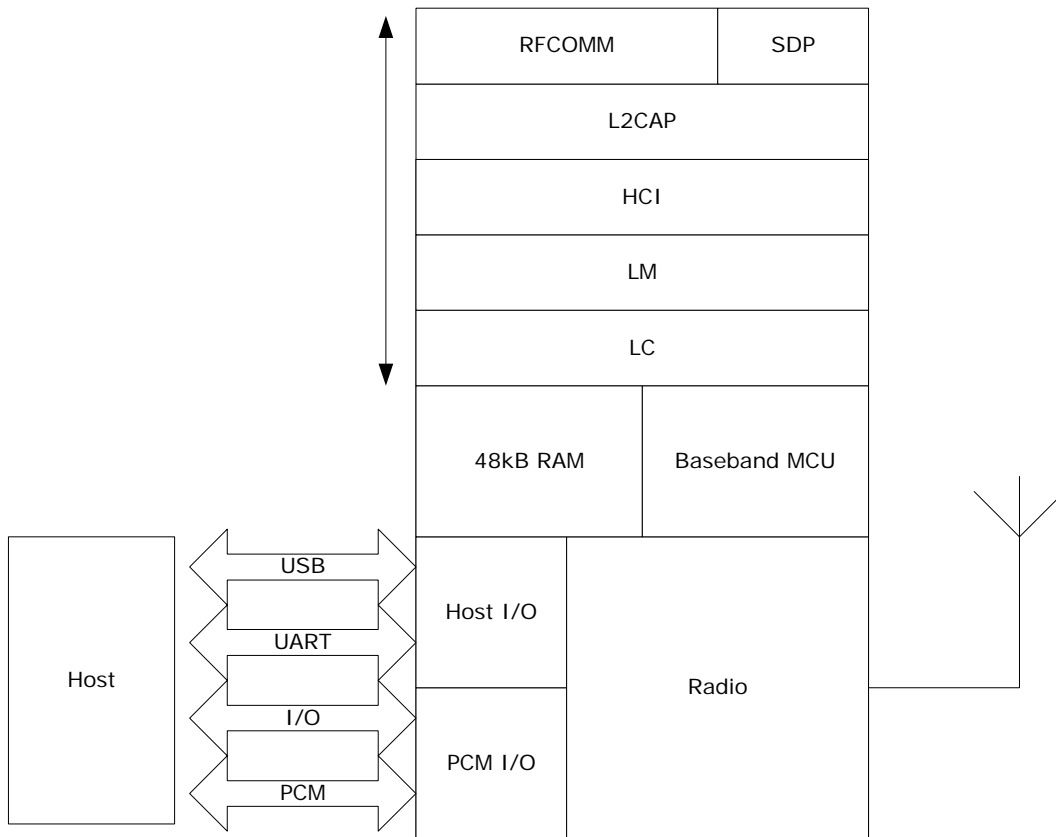

Figure 35: WRAP THOR RFCOMM stack
In figure 35 above, the iWRAP software solution is described. In this version of the stack firmware shown, no host processor is required to run the Bluetooth protocol stack. All software layers, including application software, run on the internal RISC processor in a protected user software execution environment known as a Virtual Machine (VM).
The host processor interfaces to iWRAP software through one or more of the physical interfaces, which are also shown in the figure 35. The most common interfacing is done through the UART interface using the ASCII commands supported by the iWRAP software. With these ASCII commands, the user can access Bluetooth functionality without paying any attention to the complexity, which lies in the Bluetooth protocol stack.